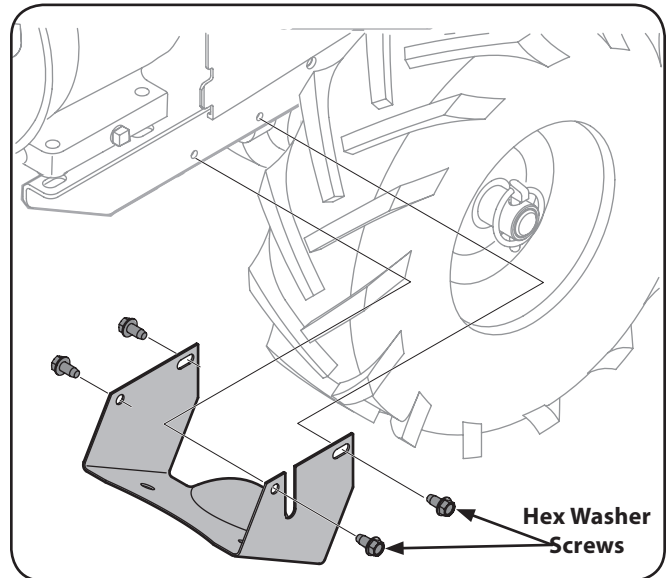

Figure 7-2
3. Remove the four 1/4-20 hex washer screws that secure the pulley shield to the frame as seen in Figure 7-2, and remove the pulley shield and set aside in a safe location until reinstallation.